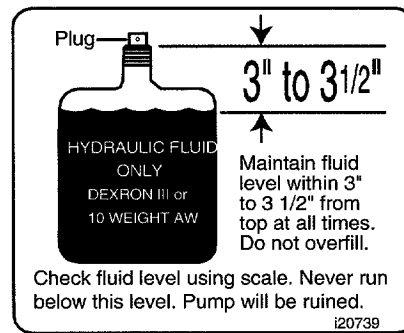

Figure 7
3. Fill the reservoir tank to the within 3" to 3 1/2" from the top of fill tube with Dexron III automatic transmission fluid, or 10W AW hydraulic fluid. Check fluid level using a scale. Do not overfill. Replace vent plug securely. See Figure 7.